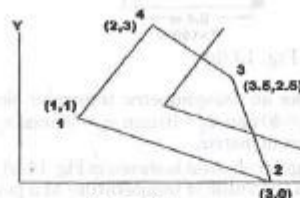

Fig. 15(a)
15. a) i) For the four noded element shown in Fig. 15 (a), determine the Jacobian and evaluate its value at the point (1/3, 1/3) and evaluate its value at the point (1/3, 1/3) (6)
- ii) Using energy approach derive the stiffness matrix for a 1D linear isoparametric element. (8)